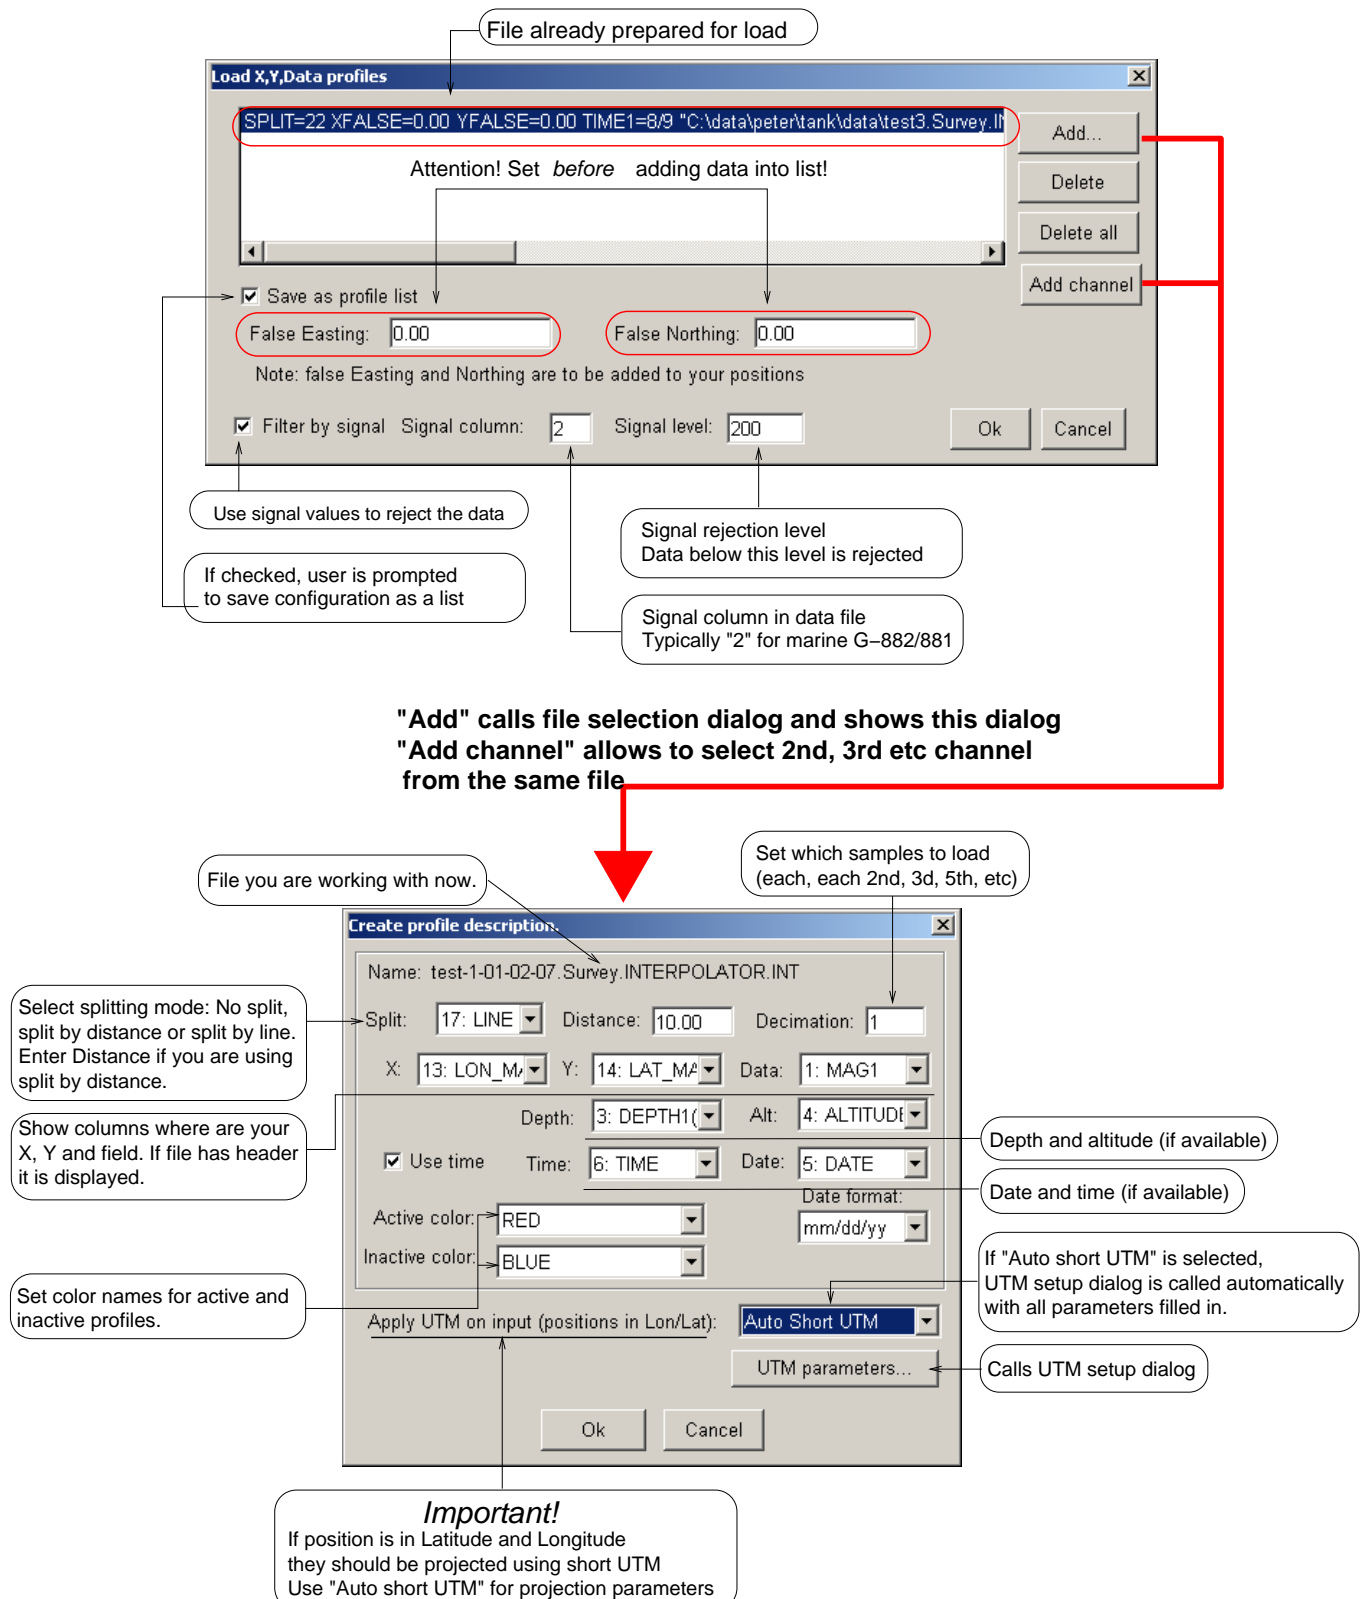

Figure 14: Simple profile loading
- Go to *File / Profiles / Simple load*. Dialog box shown in Figure 14 appears on the screen.
- Press *Add* button and then use file selection dialog (not shown here) to select your data file. Typical options are Surfer DAT file or “Geometrics” MagLog NT Interpolator file (INT). After file is selected, program parses its first row and the bottom part of picture in Figure 14 appears.
- If data were acquired with a multi sensor array, then other channels should be loaded. This can be done by hand by editing profile list file (**MagPick** prior version 2.8). Current versions of **MagPick** allow loading an additional channel from the same data file by first selecting string in the profile list and then pressing the *Add channel* button (top part of Figure 14). This will skip file selection dialog and go directly to the *Create profile description* dialog (bottom part of Figure 14). Repeat the same operation as for the first channel. Note also that the same file can be loaded multiple times using different columns.